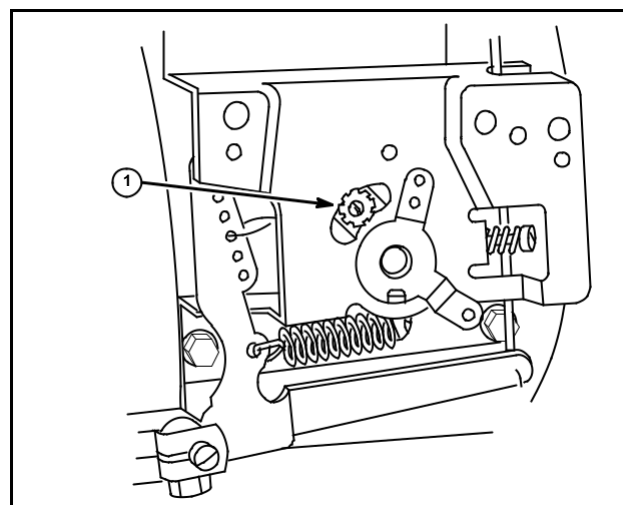

Fig. 33
3. Set Speed control to desired RPM and tighten fixed speed screw (1), Fig. 33.